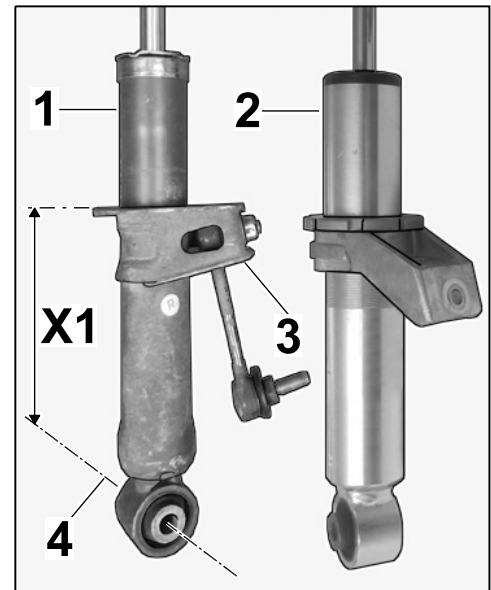

Figure 7
3.1 Measure dimension X1 (spring plate – lower/bush for shock absorber ⇒ *Figure 7* -X1-) on the standard shock absorber.